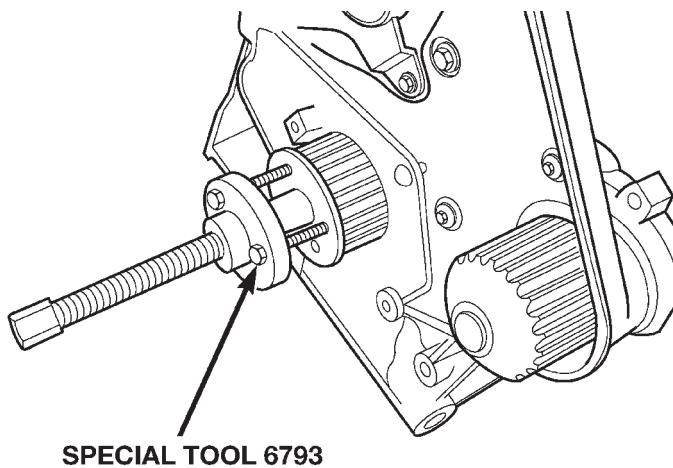

Fig. 70 Crankshaft Sprocket—Removal
- (1) Disconnect negative cable from battery.
- (2) Remove Timing Belt. Refer to Timing Belt System, in this section.
- (3) Remove Oil Pan. Refer to Oil Pan Removal in this section.
- (4) Remove Crankshaft Sprocket using Special Tool 6793 and insert C-4685-C2 (Fig. 70).